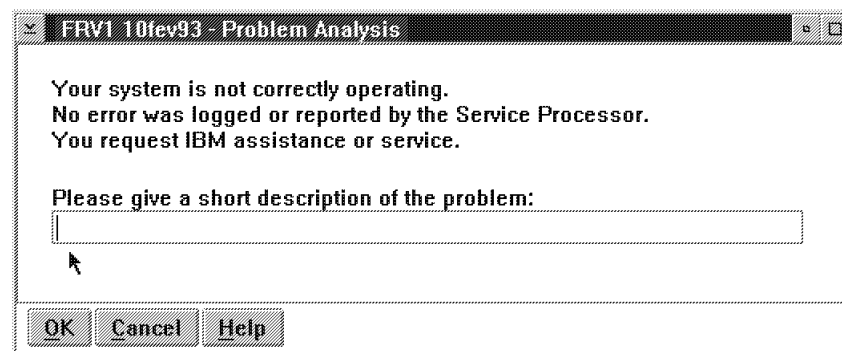

Figure 2-12. Link to RETAIN
4. See Figure 2-12 on page 2-15, enter a **short description** of the problem then click **OK**.